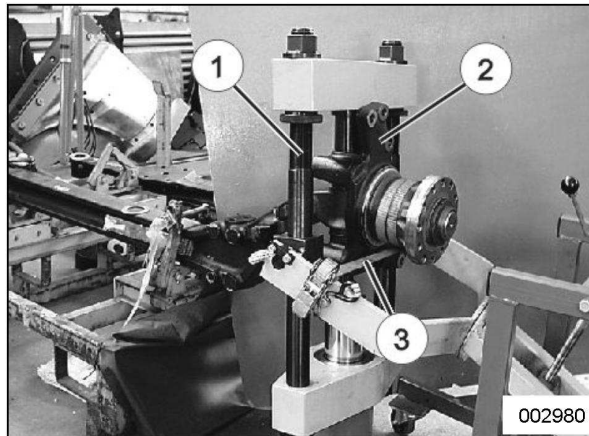

Figure 16:
Roll the portable press (1) of Figure 16, with the ram at the bottom, under the steering knuckle. Align the ram with the king-pin. Secure steering knuckle (2) with tension belt (3). Connect the hydraulic pump to the press.